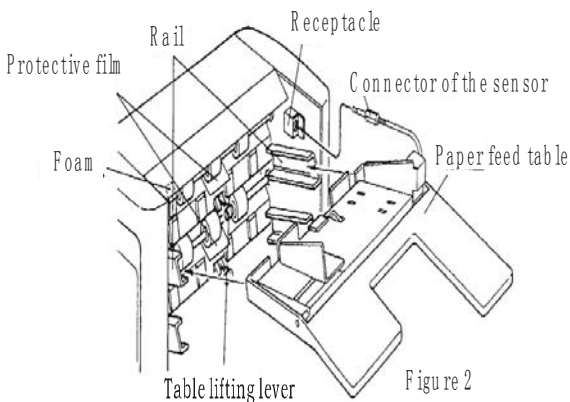

Figure 2
- (2) Attach “the paper feed table” and “the connector of the paper feed sensor” (see Figure 2)